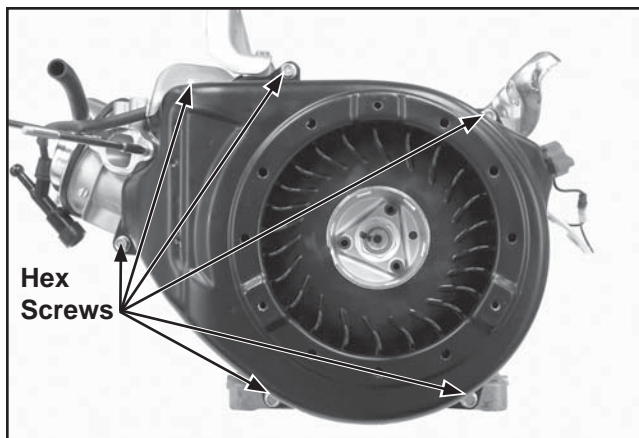

Figure 11-72. Install Blower Housing.
2. Install the blower housing on the crankcase with the hex flange screws. Torque screws to **10 N·m (89 in. lb.)**. See Figure 11-72.